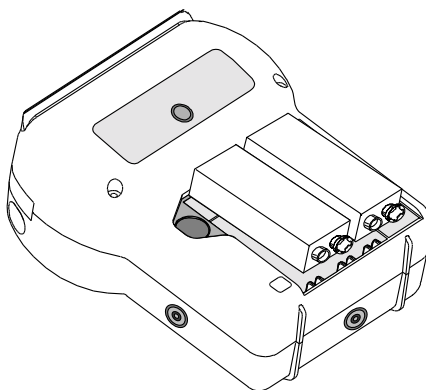

Figure 7-1 Correct Battery Orientation
3. Place two new 9-volt batteries into the compartment, matching the battery terminals with the pump's terminal guides as shown in Figure 7-1.